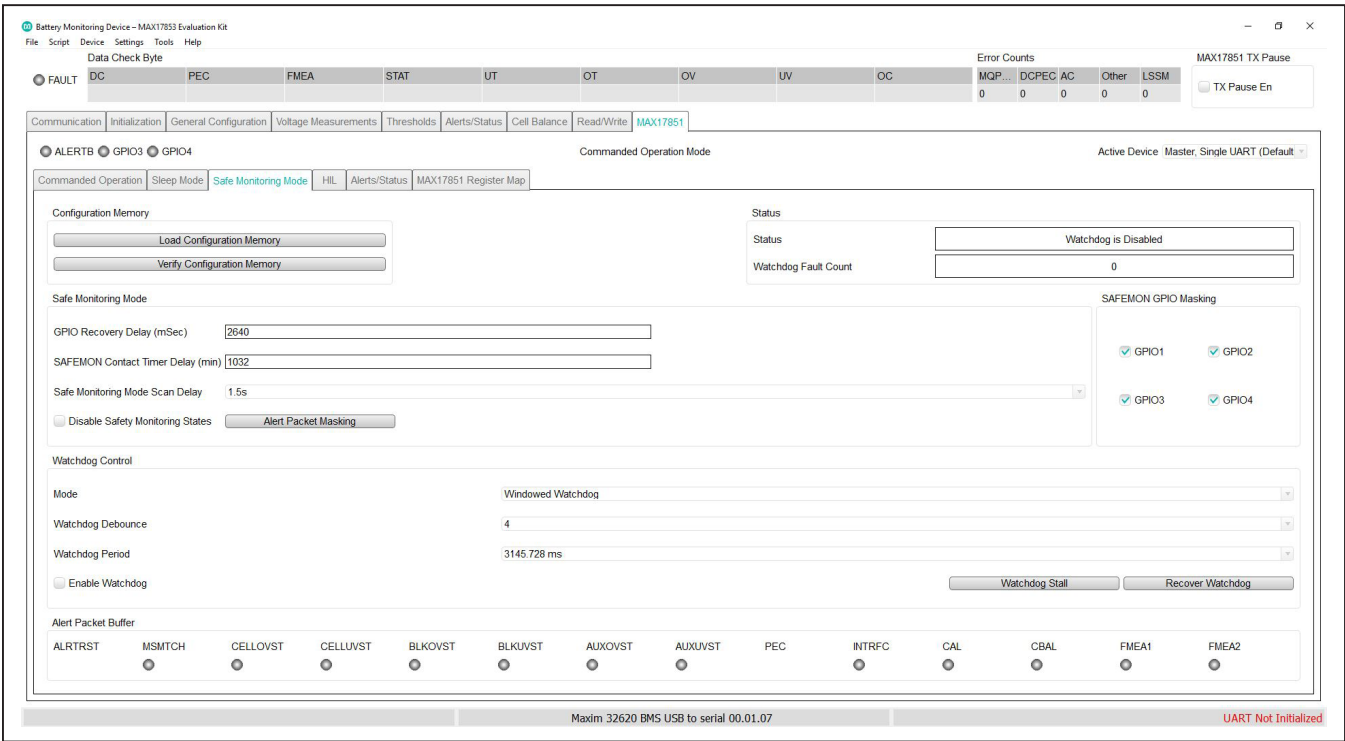

Figure 14. Safety Monitoring Mode tab
- 4) Select the **Safe Monitoring Mode** tab (Figure 14) and in the **Watchdog Control** group box, set the **Mode** to **Challenge/Response Watchdog**.
- 6) Select the **Safe Monitoring Mode** tab (Figure 14) and in the **Safe Monitoring Mode** group box, set the **SAFEMON Contact Timer Delay (min)** to 16 min. The **SAFEMON Contact Timer Delay (min)** will assert GPIO 1 and 2 at the expiration of the timer.
- 5) Select the **Safe Monitoring Mode** tab (Figure 14) and in the **Configuration Memory** group box, click the **Load Configuration Memory** button.